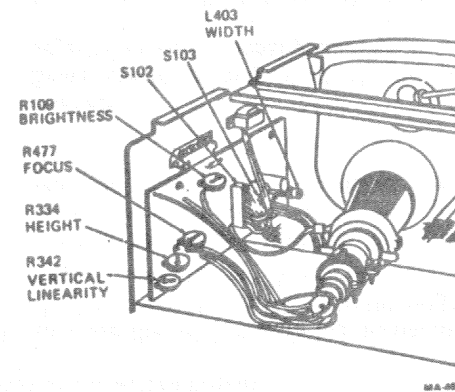

Figure 4-5 Elston/DIGITAL Video Monitor Board Adjustments
2. Adjust R109 (Figure 4-5) until the display raster is visible; then turn R109 in the opposite direction until the raster disappears.